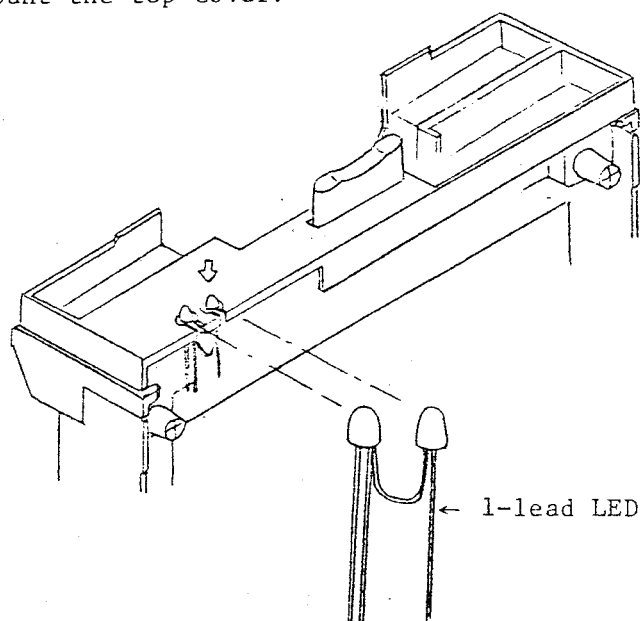

Fig. 4.17 Indicator Assembly
- (b) Insert the indicator assembly into the guide groove, and gently press it in the arrowed direction (Fig. 4.17).